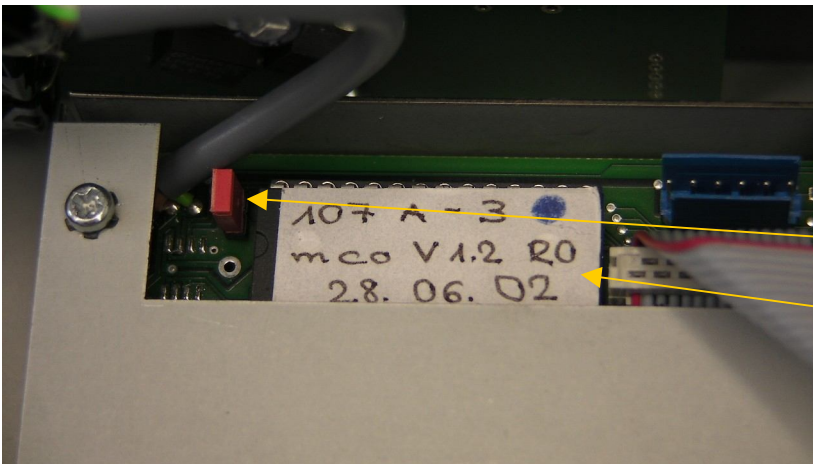

Figure 8.3
STEP 5: Remove the red calibration jumper using a pair of pincers or a pair of pliers (Figure 8.3).